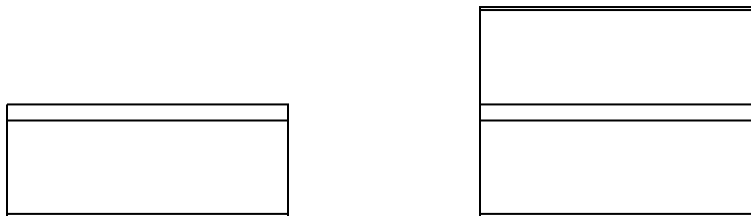

Figure 36
1. Remain in the **Sandbox** project file. Open the *Level 1* plan view (see Figure 36).